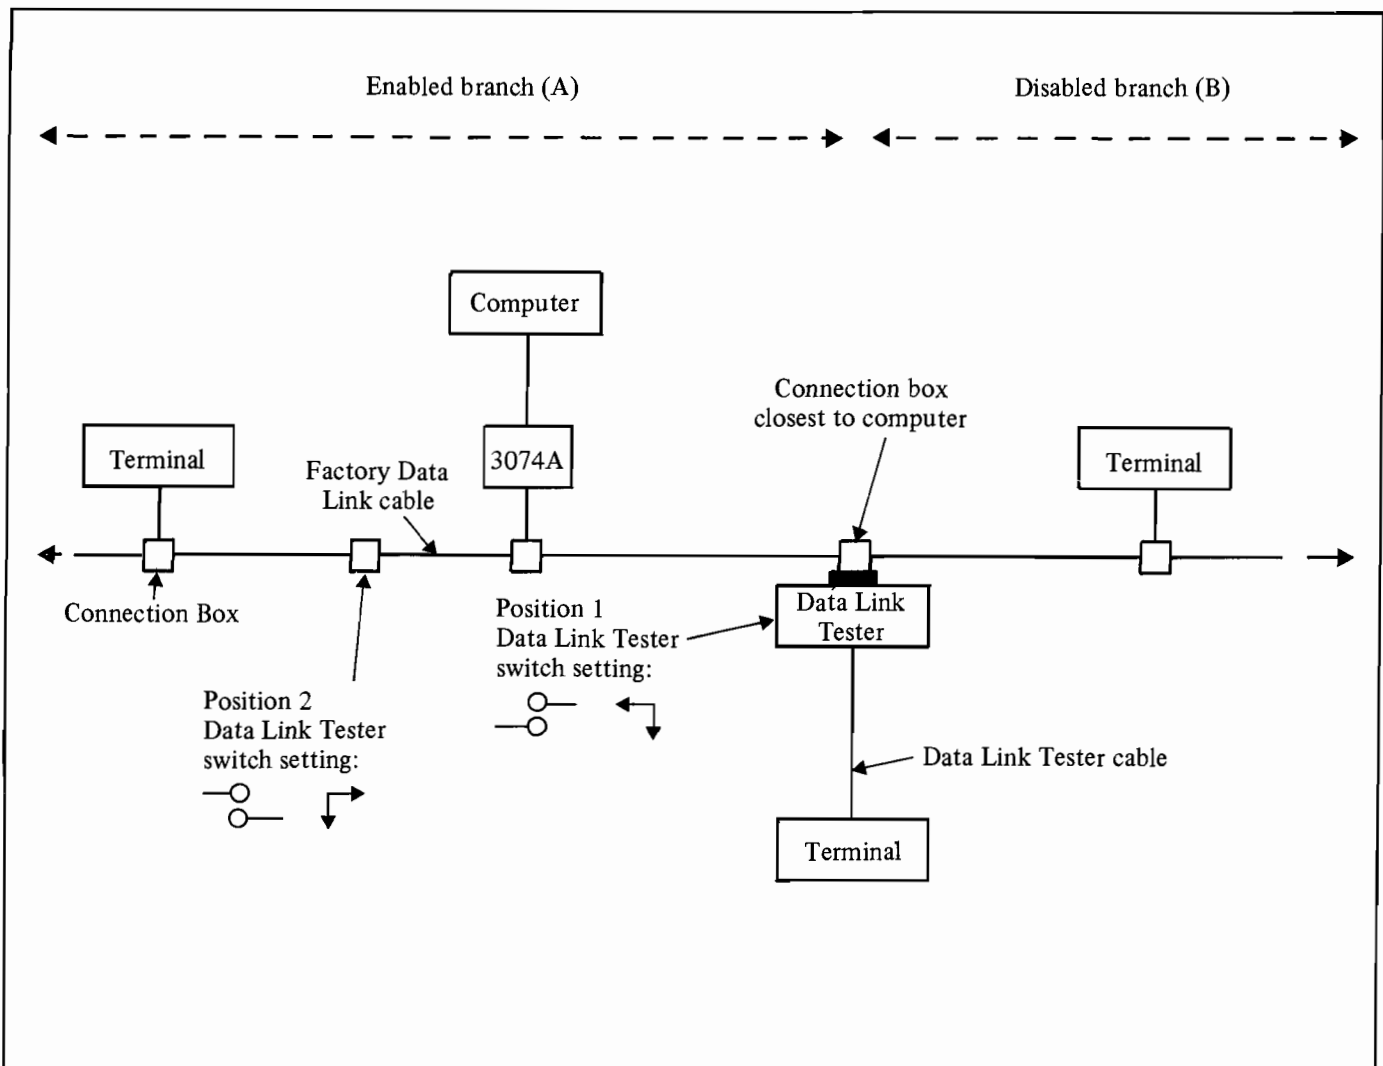

Figure 16-11 Data Link Tester Switch Settings To Disable One Branch Of The Factory Data Link
- 2) Connect the Data Link Tester plug into the Data Link Connection Box that is closest to the computer/3074A connection box (figure 16-11 position 1). Thereby, the terminal is connected to one branch of the Data Link via the Data Link Tester.
- 3) Set the Data Link Tester switches so that only one branch of the Data Link is enabled and the other branch is disabled, see figure 16-11 position 1.
- 5) If all three TRAFFIC LIGHTS (red/yellow/green) on the Data Link Tester flash together (at the same rate as the polling sequence), it indicates the enabled branch of the Data Link (figure 16-11, A) is functioning correctly. Consequently, the disabled branch (figure 16-11, B) is at fault and it may be tested as described in section 16-48.
- a) Remove the Data Link Tester/terminal from their position on the Data Link, and plug them into the first connection box on the Data Link on the "other side" of the computer (figure 16-11 position 2).
- b) Repeat the on-line check but with the switches on the Data Link Tester reversed. This disables part of the previously enabled branch (figure 16-11, A), allowing the disabled branch (figure 16-11, B) to be tested.
Either the HP 1640A Serial Data Analyzer or the HP 2645A CRT may be used to simulate the operation of the computer and so check the Data Link. If these tests are successful they signify the computer is causing the Data Link malfunction. These tests should be performed with the 3075A/3076A/3077A terminals connected to the Data Link. In addition, a Data Link Tester and a terminal should be connected to the connection box nearest to the 3074A/computer, as shown in figure 16-11. The Data Link Tester switches should be set to monitor the Data Link communications in both directions (i.e. both switches set to the right-hand position). The TRAFFIC ACTIVITY lamps should simultaneously flash at the same rate as a polling sequence is displayed on the 1640A CRT, or generated by the 2645A. If the test is successful, it should be repeated but with the Data Link Tester/terminal plugged into last connection box at each end of the cable (to check the condition of the complete cable).